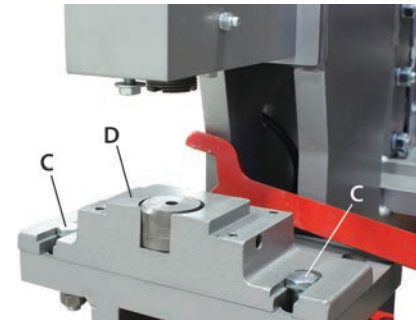

Figure 3
5. Loosen and remove bolts (C) and remove the punch table/die table assembly (D) from ironworker frame table pedestal (see Figure 3).